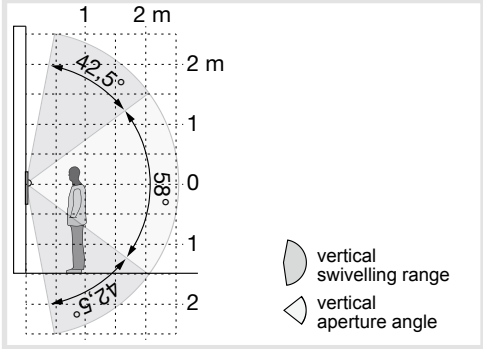

Figure 13: Vertical camera orientation
- Align camera (figure 13/14).